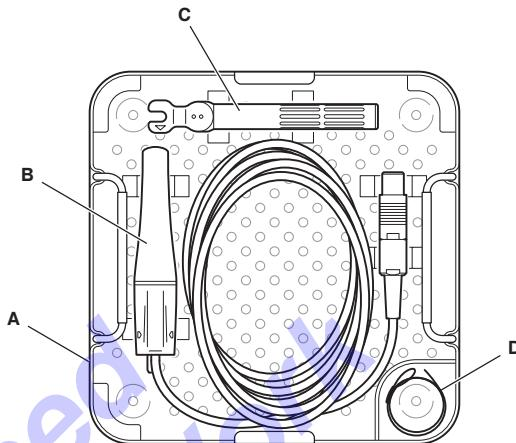

Figure 117 – Sterilization Tray Device Placement
1. Load the handpiece, torque wrench, and reusable cleaning wire into the Sonopet iQ Sterilization Tray (Figure 117) or the Aesculap Rigid Sterilization Container, if appropriate.